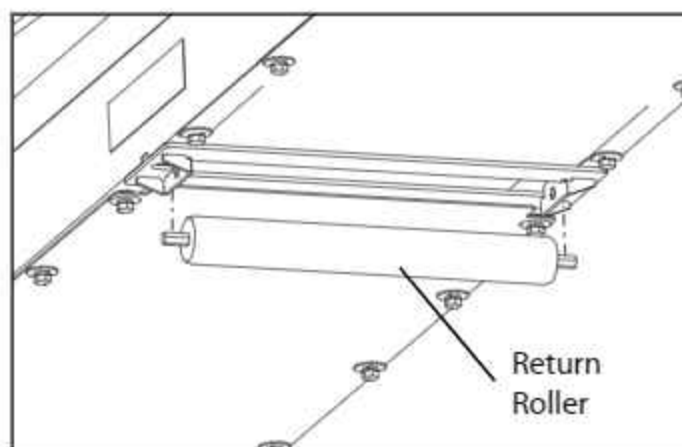

FIG. 3-22. Return Roller Installation
17. Install the Return Rollers into the Roller Holders at the breaks in the Wind Guards. See Fig. 3-22.